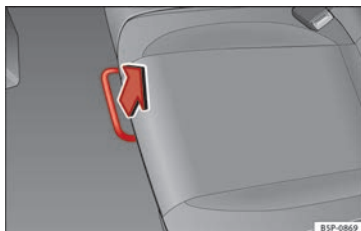

Fig. 79 Unlock bar on rear seat
- In the seated position, unlock the lever in the direction of the arrow » Fig. 79.